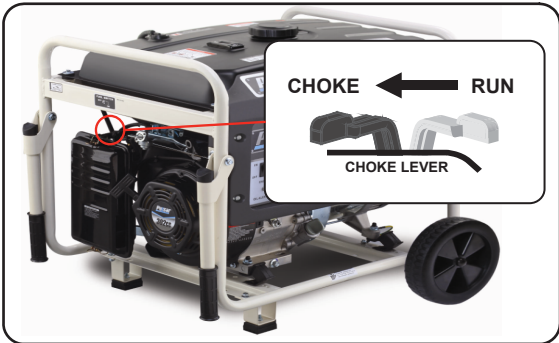

Fig 7
- Slide the choke lever to the “Choke” position. (See fig 7) **SKIP THIS IF THE ENGINE IS WARM OR HOT.**